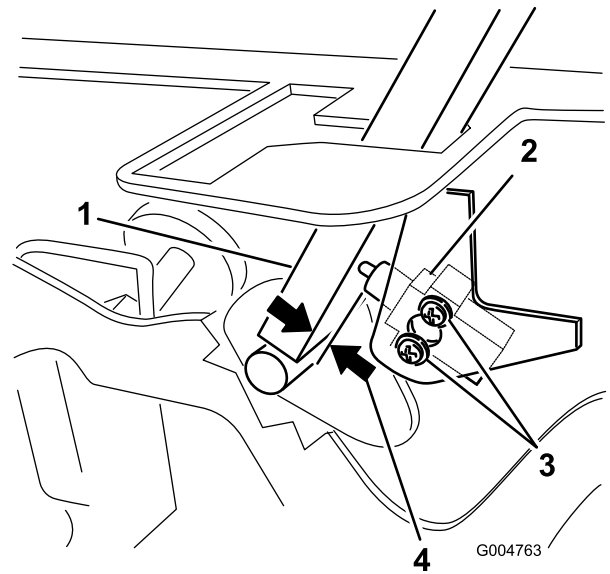

Figure 82
3. Loosen the 2 screws securing the interlock switch (Figure 82).
4. Holding the control lever against the frame, move the switch toward the lever until the distance between the lever and switch body is 0.4 to 1 mm (0.015 to 0.045 inch) as shown in Figure 82.